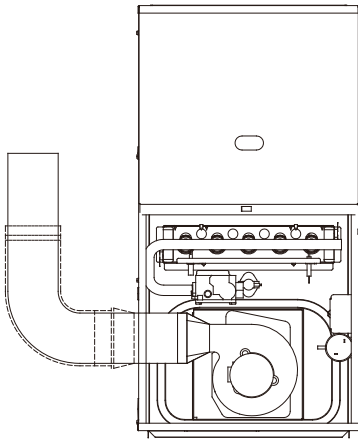

Fig. 6-8 Downflow Application- Vent Elbow Up then Left
This furnace can be installed for upflow, downflow and horizontal positions (see Fig 6-8~6-14).
- 1) Downflow Left Side Venting Fig. 6-8
Vent the furnace with the appropriate connector as shown in Fig. 6-8~6-14.